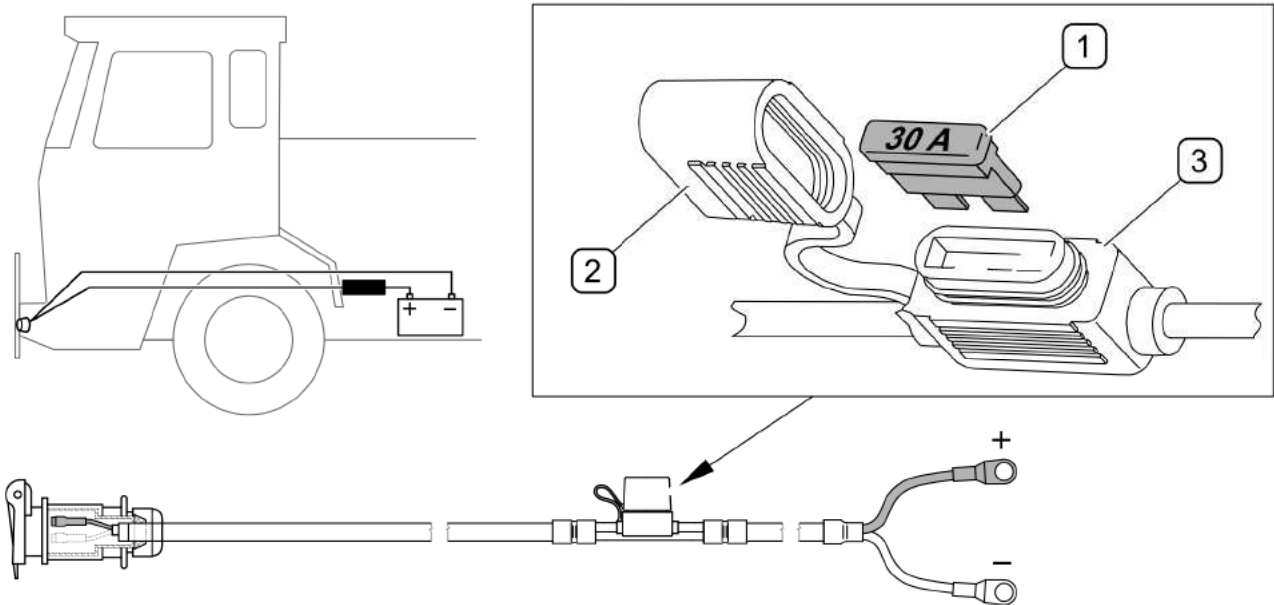

FIG. 5.3 Fuse of ZM-S25 sweeper's electrical system
In ZM-S25 sweepers, fuse (1) is installed on the supply lead „+” that is terminated with a 3-pin socket and connected to the carrying vehicle's electrical system (FIG. 5.3). To check the fuse, remove cover (2) and take the fuse out of the housing (3). Blown fuse should be replaced with a new one (UNIVAL 30A).